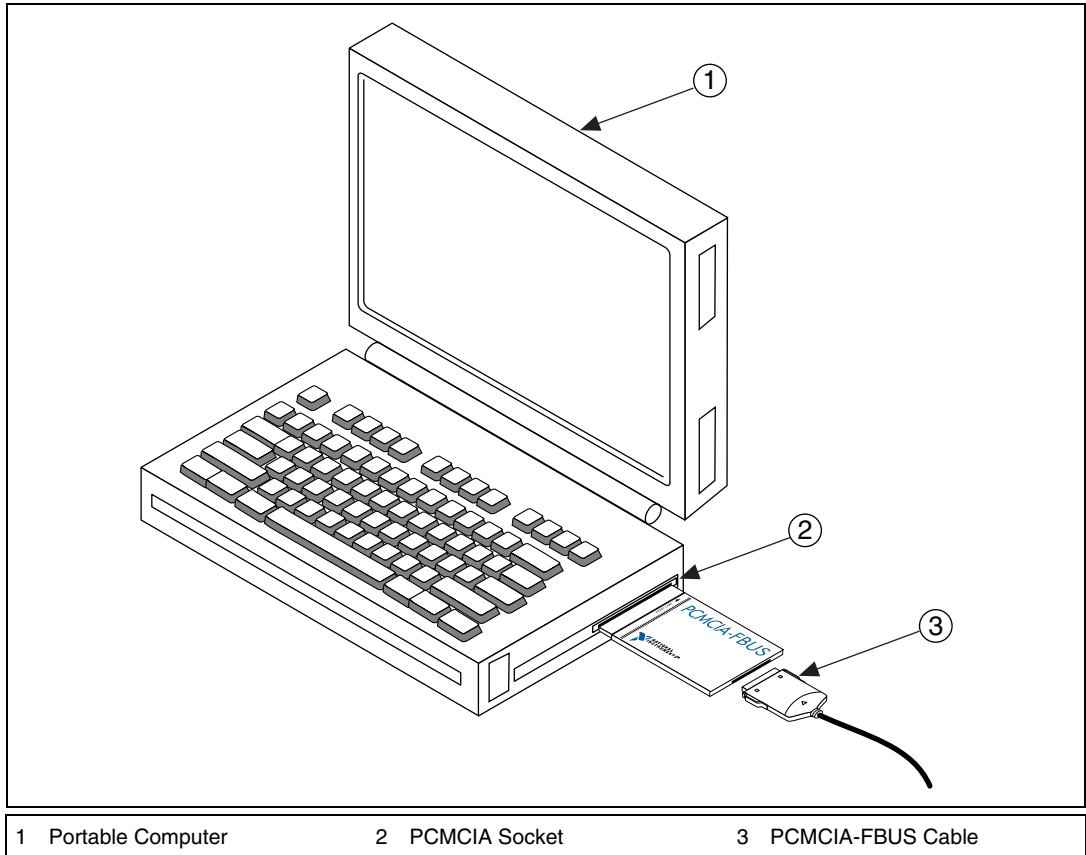

Figure 2-1. Inserting the PCMCIA-FBUS
2. Insert the card into a free PC Card (PCMCIA) socket. The card has no jumpers or switches to set. Figure 2-1 shows how to insert the PCMCIA-FBUS and how to connect the PCMCIA-FBUS cable and connector to the PCMCIA-FBUS card. However, the PCMCIA-FBUS/2 card has two connectors. Refer to Appendix B, *Pinout Information*, for more information about these two connectors.